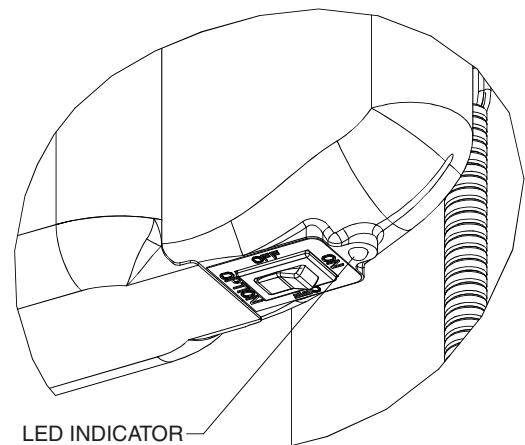

Figure 31
4. Refer to Figure 31, and VERIFY that the LED indicator lights GREEN.